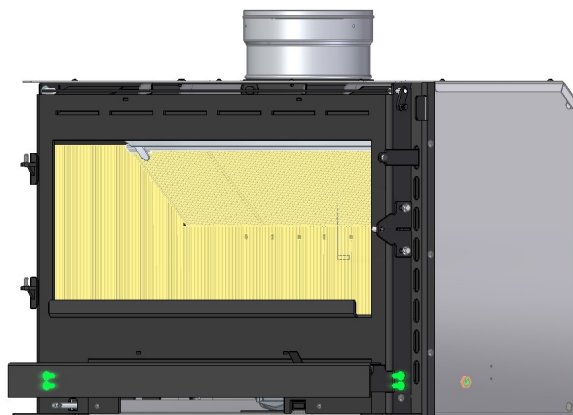

**Figure 9 - Mounting the upper brackets - PA1090G053**
8. To apply the upper supports, before attaching them to the wall, you should attach them outside according to the measure shown in Figure 9. The measure "Y" is the distance that the support will have to the wall fixing, this measure should be taken at the place to be installed in order to later tighten the fixing set.